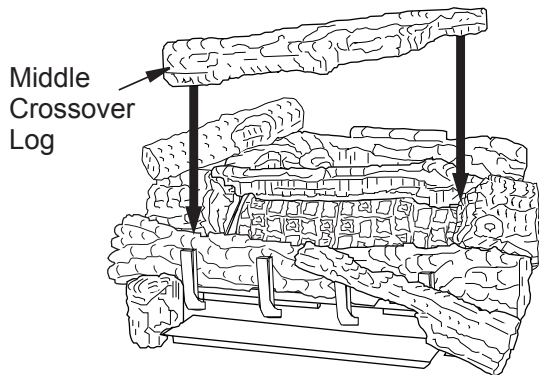

Figure 38 - Installing Middle Crossover Log
- Rest the middle crossover log onto the right middle log and the left front log (see **Figure 38**). Make sure to match the projection on the bottom of the crossover log with the recess area in the right middle log and the left front log.